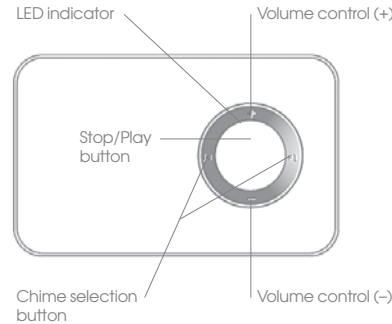

Fig. 4
- The chime has 32 different ring tones. Select the melody and desired volume level by the buttons on the face of Receiver (Fig. 4).
- When the melody rings, an LED illuminates on the front of the chime around the Stop/Play button (Fig. 4).